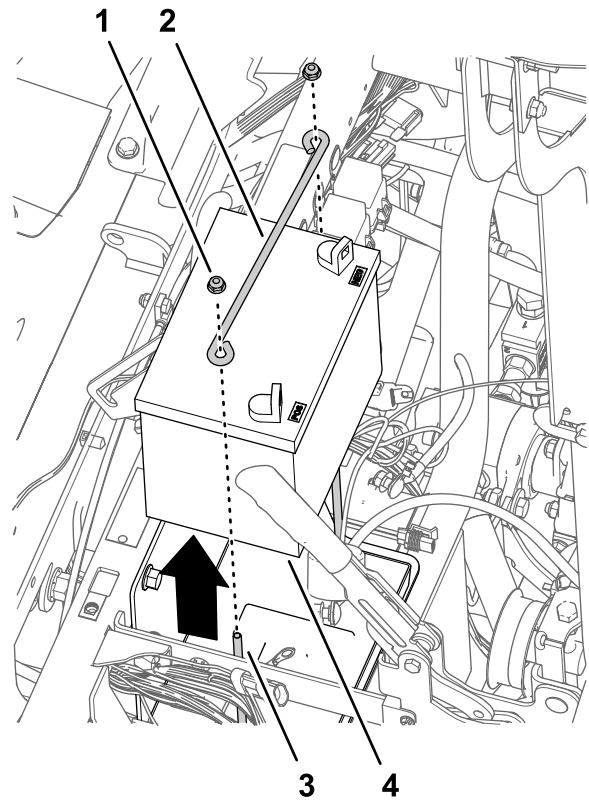

Figure 210
1. Remove the 2 flange locknuts and hold-down rod from the 2 J-bolts that secure the battery to the battery bracket of the machine (Figure 210).
- 3. Remove the battery from the machine (Figure 210).